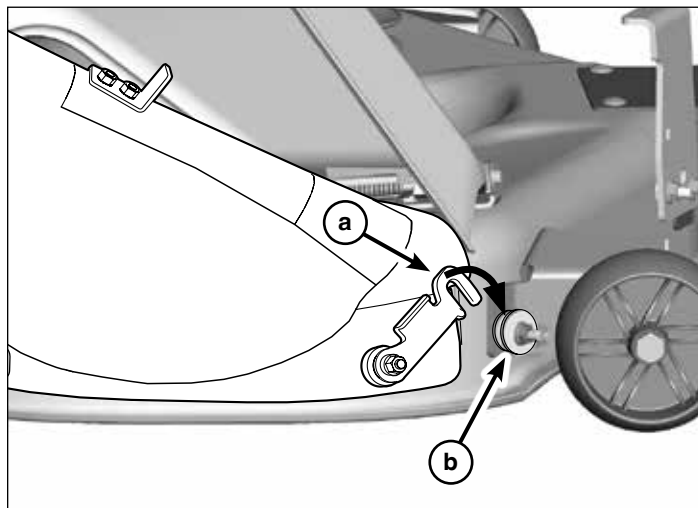

Figure 14
1. Rotate the latch (a, Figure 14) into the space between the spacer and the washer hardware (b).